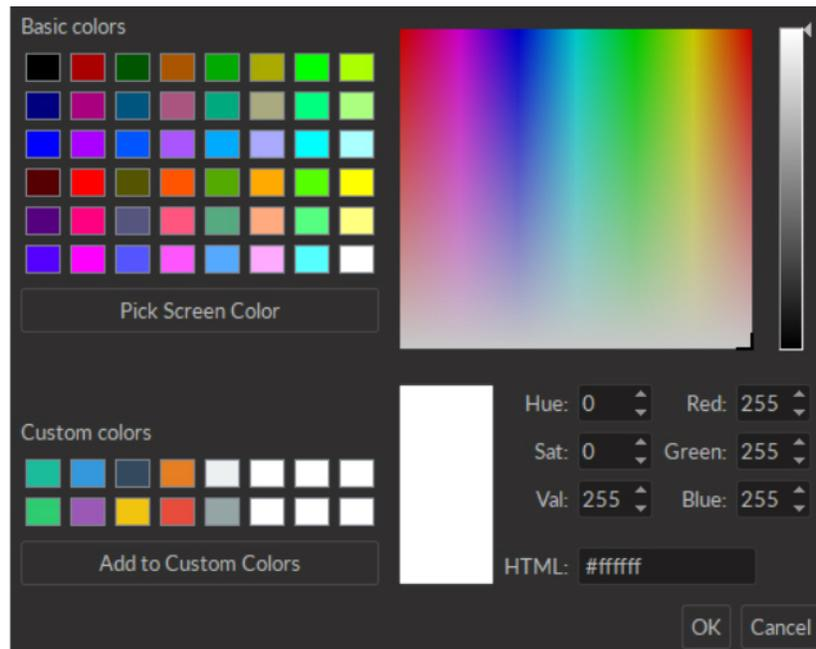

Figure 3.23: Select Color Window
- The **Trace Color** button (...) opens the **Color Select** window (Fig. 3.23), which allows the selection of a trace color from a wide palette. The **Pick screen color** in this window allows the selection of any color displayed on the computer screen.